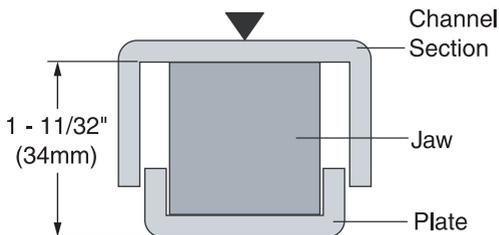
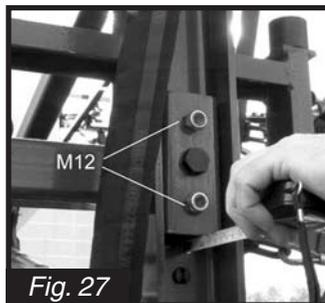

Fig. 26
Fig. 27
1. Check the basic adjustment of the rubber jaw dampers (Fig. 26 & Fig. 27). The compression of the jaw (Fig. 26) should measure 1-11/32" (34mm).
2. Adjust the jaw if necessary by adjusting the two M12 bolts (Fig. 27).